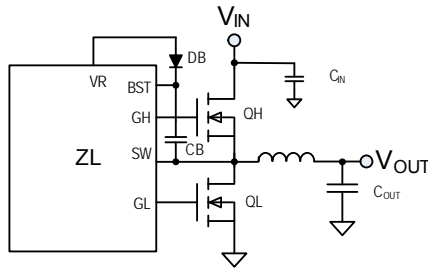

FIGURE 5. Synchronous Buck Converter
Figure 5 illustrates the basic synchronous buck converter topology showing the primary power train components. This converter is also called a step-down converter, as the output voltage must always be lower than the input voltage. In its most simple configuration, the ZL2008 requires two external N-channel power MOSFETs, one for the top control MOSFET (QH) and one for the bottom synchronous MOSFET (QL). The amount of time that QH is on as a fraction of the total switching period is known as the duty cycle *D*, which is described by Equation 1:
Typically, buck converters specify a maximum duty cycle that effectively limits the maximum output voltage that can be realized for a given input voltage. This duty cycle limit ensures that the lowside MOSFET is allowed to turn on for a minimum amount of time during each switching cycle, which enables the bootstrap capacitor (CB in Figure 5) to be charged up and provide adequate gate drive voltage for the high-side MOSFET. See section “High-side Driver Boost Circuit” on page 12 for more details.
The gate drive voltage for the high-side MOSFET driver is generated by a floating bootstrap capacitor, CB (see Figure 5). When the lower MOSFET (QL) is turned on, the SW node is pulled to ground and the capacitor is charged from the internal VR bias regulator through diode DB. When QL turns off and the upper MOSFET (QH) turns on, the SW node is pulled up to V_{DD} and the voltage on the bootstrap capacitor is boosted approximately 5V above V_{DD} to provide the necessary voltage to power the high-side driver. A Schottky diode should be used for DB to help maximize the high-side drive supply voltage.